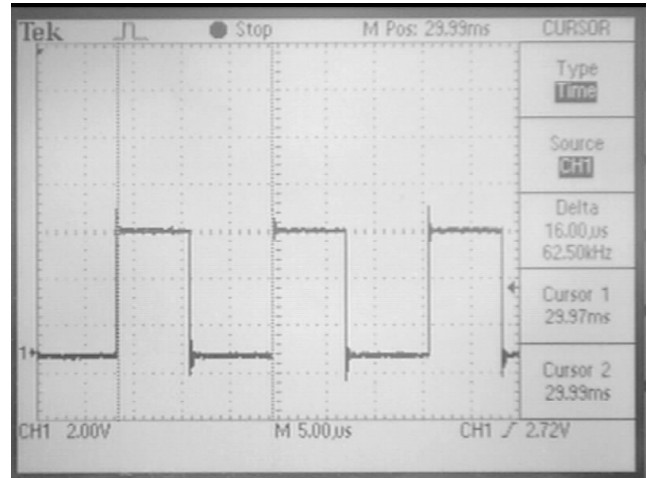

Figure 4
7. Squared Loop Oscillator signal. The signal at U5 pin 3 (channel 1) and pin 6 (channel 2) should be a square wave as shown in Figure 4.